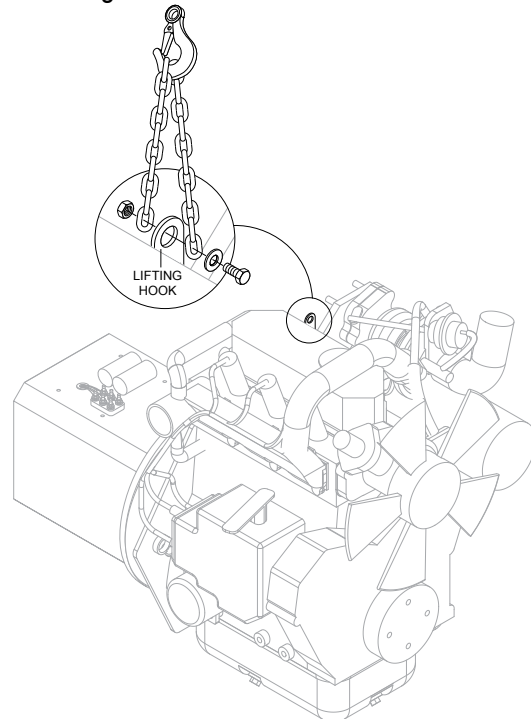

Figure 11. Hoist Engine
1. Hoist engine slightly with chain utilizing lift hook. See Figure 11. Use chain and lifting device of adequate lifting capacity. This will prevent the engine from tipping when generator is removed.